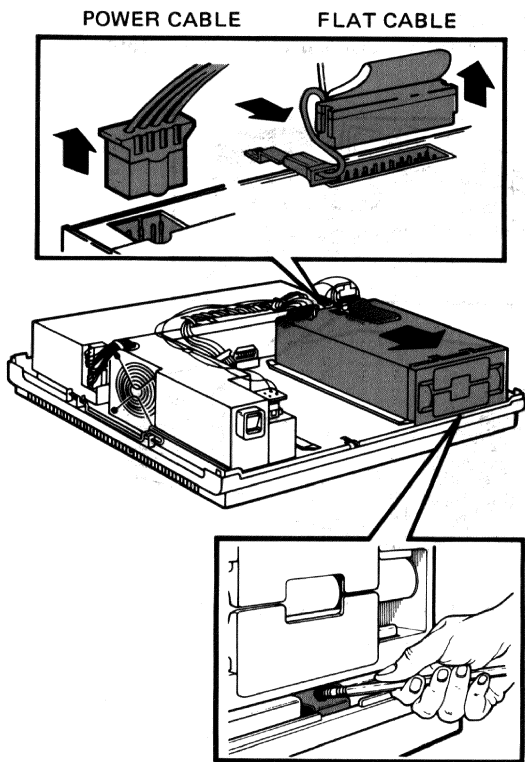

Figure 5-17 Diskette Drive Flat Cable and 4-Wire Power Cable Removal
3. Unplug the diskette drive flat cable from the top of the diskette drive (Figure 5-17).
4. Unplug the 4-wire power cable from the top of the diskette drive (Figure 5-17).
5. Press the latch with a pencil and slide the diskette drive out as shown in Figure 5-17.